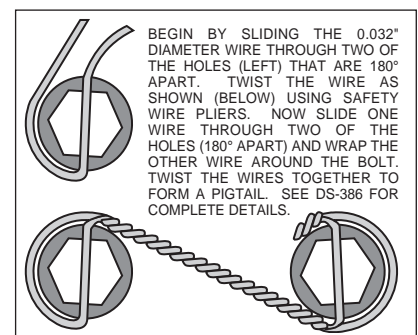

Figure 3. Safety Wire Diagram
- To accommodate several model years, multiple holes have been drilled in the caliper mounting bracket (1). Rotate the bracket until the two correct holes that align with the mounting holes in the face of the spindle are located. Apply red *Loctite*® 271 to bolt threads (2) before assembly of the caliper mounting bracket (1). Mount bracket (1) to dust face plate of spindle using bolts (2). Torque bolts (2) to 198 in-lb. **NOTE:** Be sure the heads of the caliper bracket (1) insert nuts are facing outward toward the wheel.
- Install wheel studs (3) into the hub (4). Torque to 77 ft-lb. **NOTE:** There are two five lug patterns in the hub (5 x 4.50 and 5 x 4.75). Make sure of the correct hole pattern for the correct wheel application before installing studs into hub.
- Pack the large inner bearing cone (5) with high temperature disc brake bearing grease (available from your local auto parts store) and install into the backside of the hub (4).
- Install the grease seal (6) by pressing into the backside of the hub (4).
- Attach the rotor adapter plate (7) to rotor (8) using bolts (9). Apply red *Loctite*® 271 to the threads and torque bolts (9) to 25 ft-lb. For an added measure of security, the bolts may be safety wired using standard 0.032 inch diameter stainless steel safety wire as shown in Figure 3. Please refer to Wilwood's data sheet DS-386 (available at [www.wilwood.com/Pdf/DataSheets/ds386.pdf](http://www.wilwood.com/Pdf/DataSheets/ds386.pdf)) for complete safety wire installation instructions. **NOTE:** The counterbored side of the rotor (8) should face away from the adapter plate (7), with the dished side of the adapter plate (7) facing away from the rotor (8).